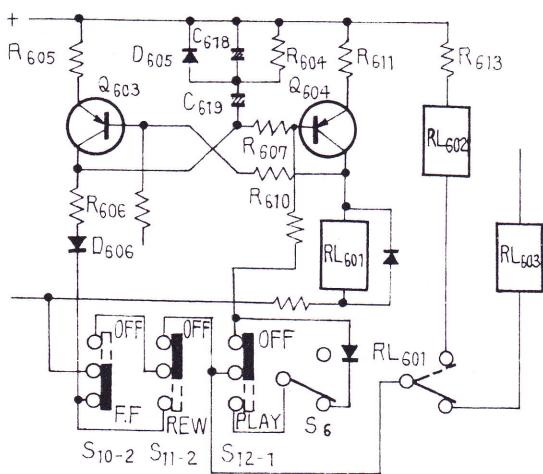

Fig. 8
- **Tape Protection at PLAYBACK Immediately From F.F. (or REW) (Fig. 8)**
As shown by Fig. 8, the circuit is structured mainly around Q603 and Q604.